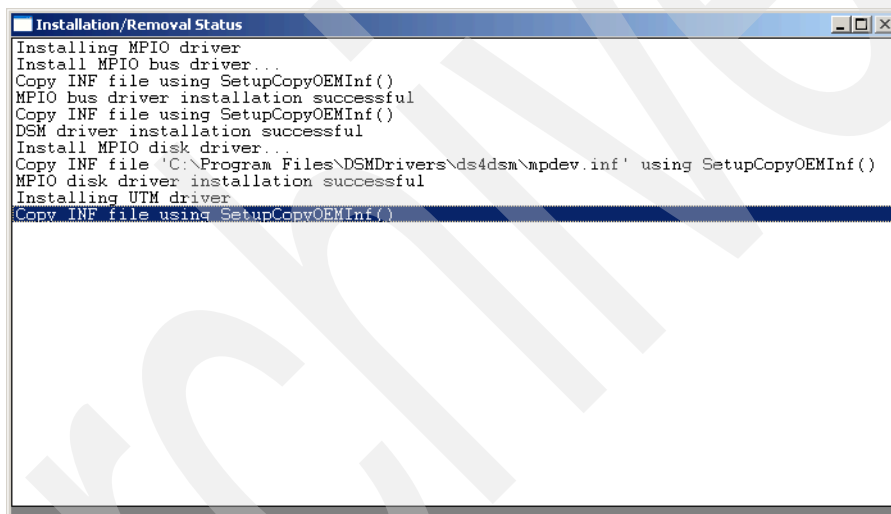

Figure 23-12 Installation progress
11. After the MPIO installation is complete, the driver for the Universal Xport or UTM (access) LUN is installed. See Figure 23-12.